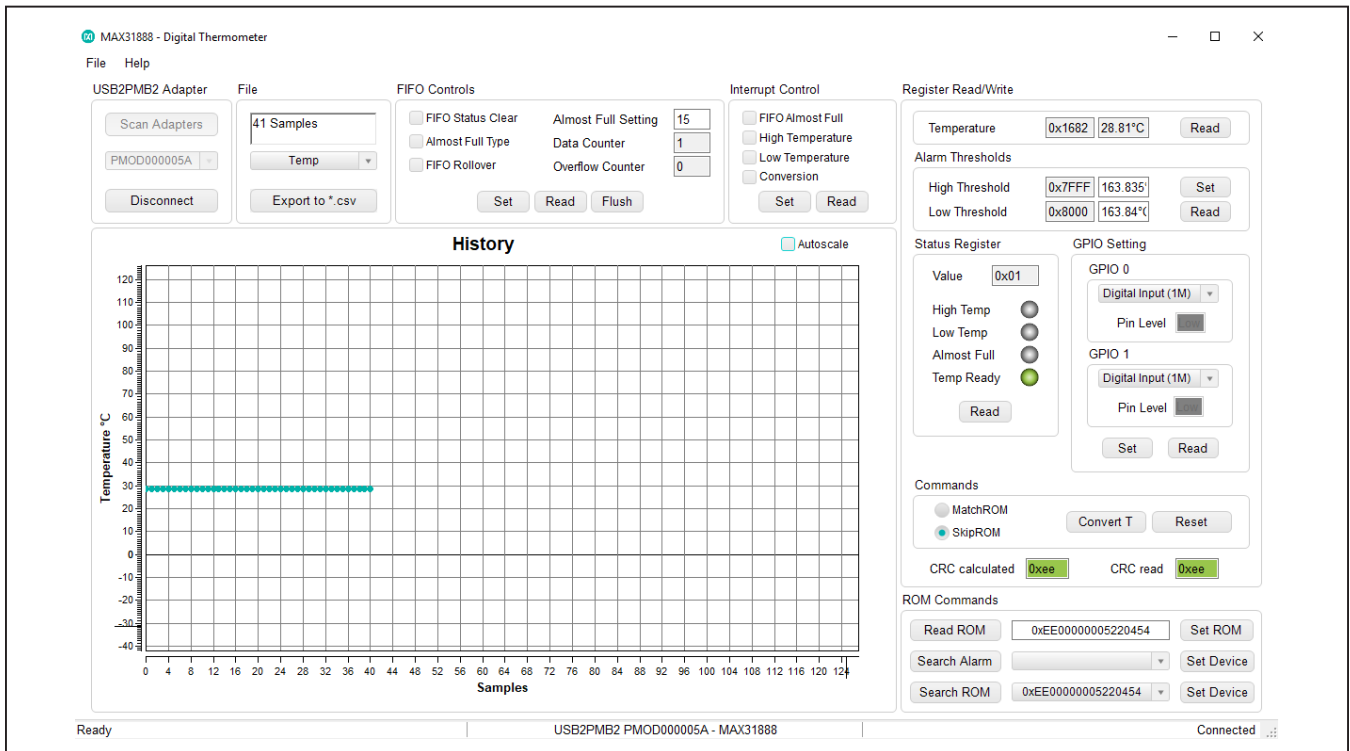

Figure 2. Measuring Temperature on the MAX31888
- 9) Click the Read button. Figure 2 shows the measured temperature.